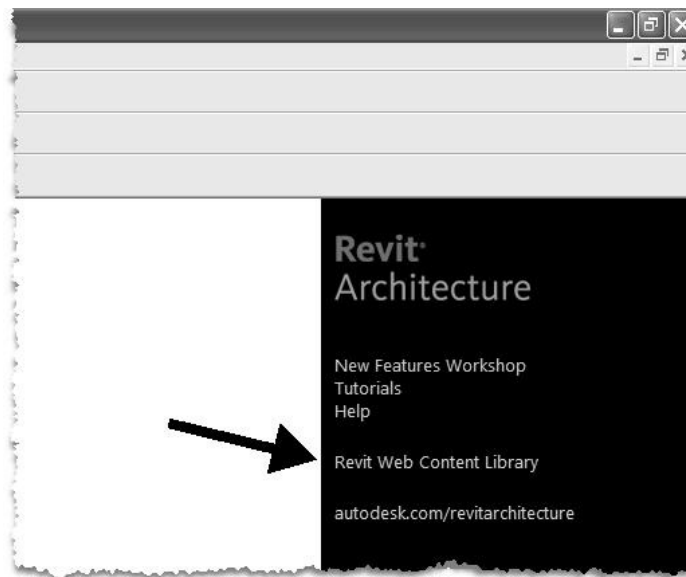

Figure 3-4.1 Recent Files
- Click the **Revit Web Content Library** button in the upper right of the *Recent Files* list (Figure 3-4.1).